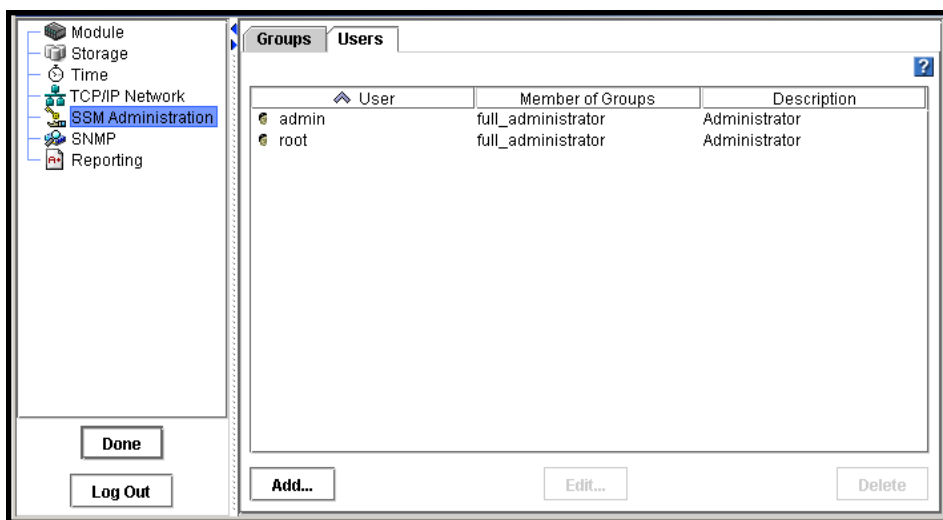

Figure 102. Adding Administrative Users
2. Click the Users tab to bring it to the front, shown in Figure 102.